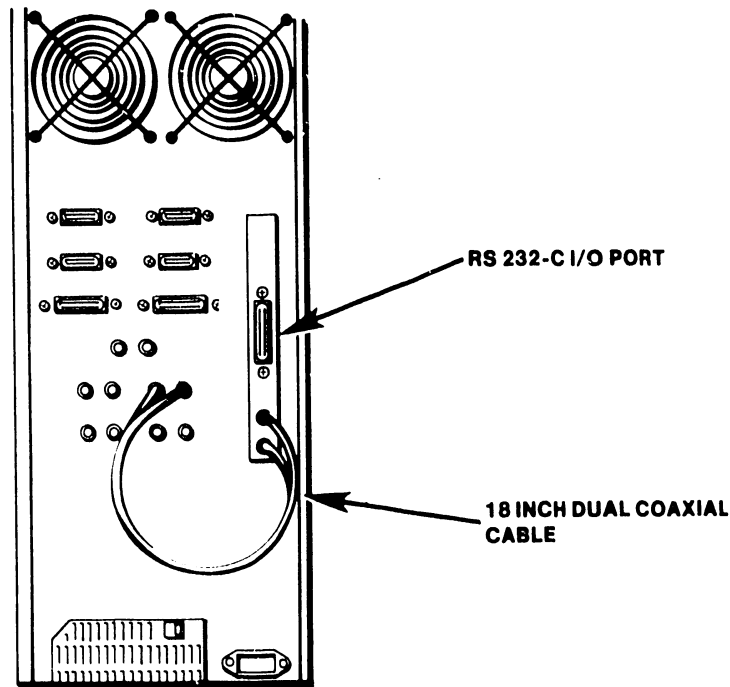

Figure 4-25 TC Rear Panel Installation
1. Position the TC rear panel over the open slot (from internal side of master) in the masters rear panel as shown in Figure 4-25.
3. Connect and then route the external 18-in. dual coaxial cable from the TC rear panel to any dual connector port on the rear of the master as shown in Figure 4-25.